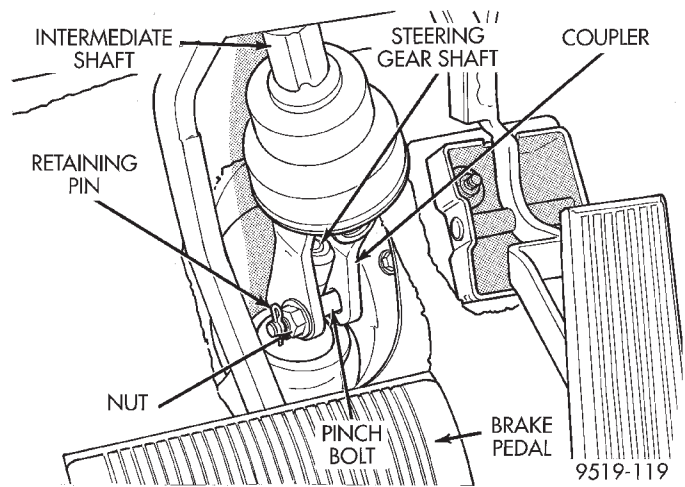
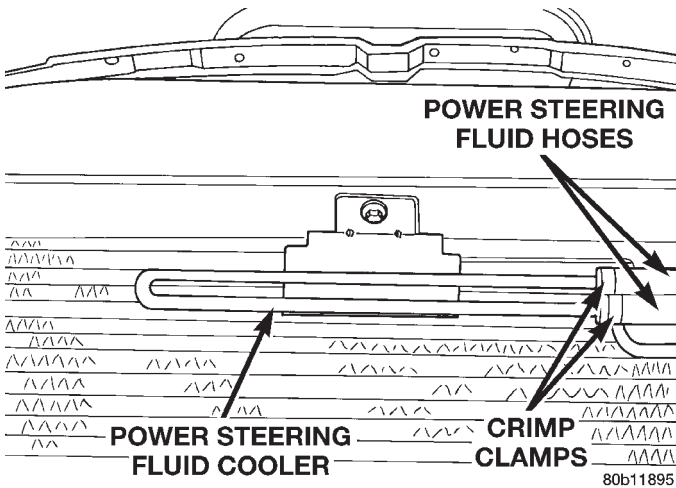

Fig. 25 Intermediate Shaft Coupler Attachment To Steering Gear
Fig. 26 Hose Clamps At Power Steering Fluid Cooler
(1) Remove intermediate steering shaft coupler (Fig. 25) from the steering gear shaft.
(2) Siphon as much power steering fluid as possible from the power steering fluid reservoir.
(3) Raise the vehicle using a frame contact type hoist or supported as required using jack stands. See Hoisting in the Lubrication and Maintenance group of this service manual for the required hoisting or jacking procedure to be used for this vehicle.
(4) Remove the left front wheel/tire.
(5) Remove the front fascia and the grill as an assembly from the vehicle. Refer to Front Bumper/Fascia in Group 13 of this service manual for the proper procedure.
(6) Remove the hose clamps (Fig. 26) from the power steering fluid hoses. Drain power steering fluid from the hoses and the power steering fluid cooler.
(9) Install power steering fluid hoses on the power steering fluid cooler (Fig. 26). Install the hose clamps on the power steering fluid hoses. **Be sure hose clamps are installed on hose past the upset bead on the power steering oil cooler.**
(10) Install the front fascia and grill on the vehicle. Refer to Front Bumper/Fascia in Group 13 of this service manual for the proper procedure.
(11) Lower the vehicle to a point where front tires are just off the ground.
(12) Connect the steering column intermediate shaft on the shaft of the steering gear (Fig. 25). Install a **new** coupler retaining pinch bolt and tighten to a torque of 27 N·m (240 in. lbs.). **Be sure to install the coupler retaining pinch bolt retention pin (Fig. 25).**
(13) Start the engine and let run for a few seconds. Then turn the engine off.
(14) Add fluid if necessary. Repeat the above procedure until the fluid level remains constant after running the engine.
(15) Start the engine. Slowly turn the steering wheel right and left, lightly contacting the wheel stops.
(16) Add power steering fluid if necessary.
(17) Stop the engine. Check the fluid level and refill as required.
(18) If the fluid is extremely foamy, allow the vehicle to stand a few minutes and repeat the above procedure.